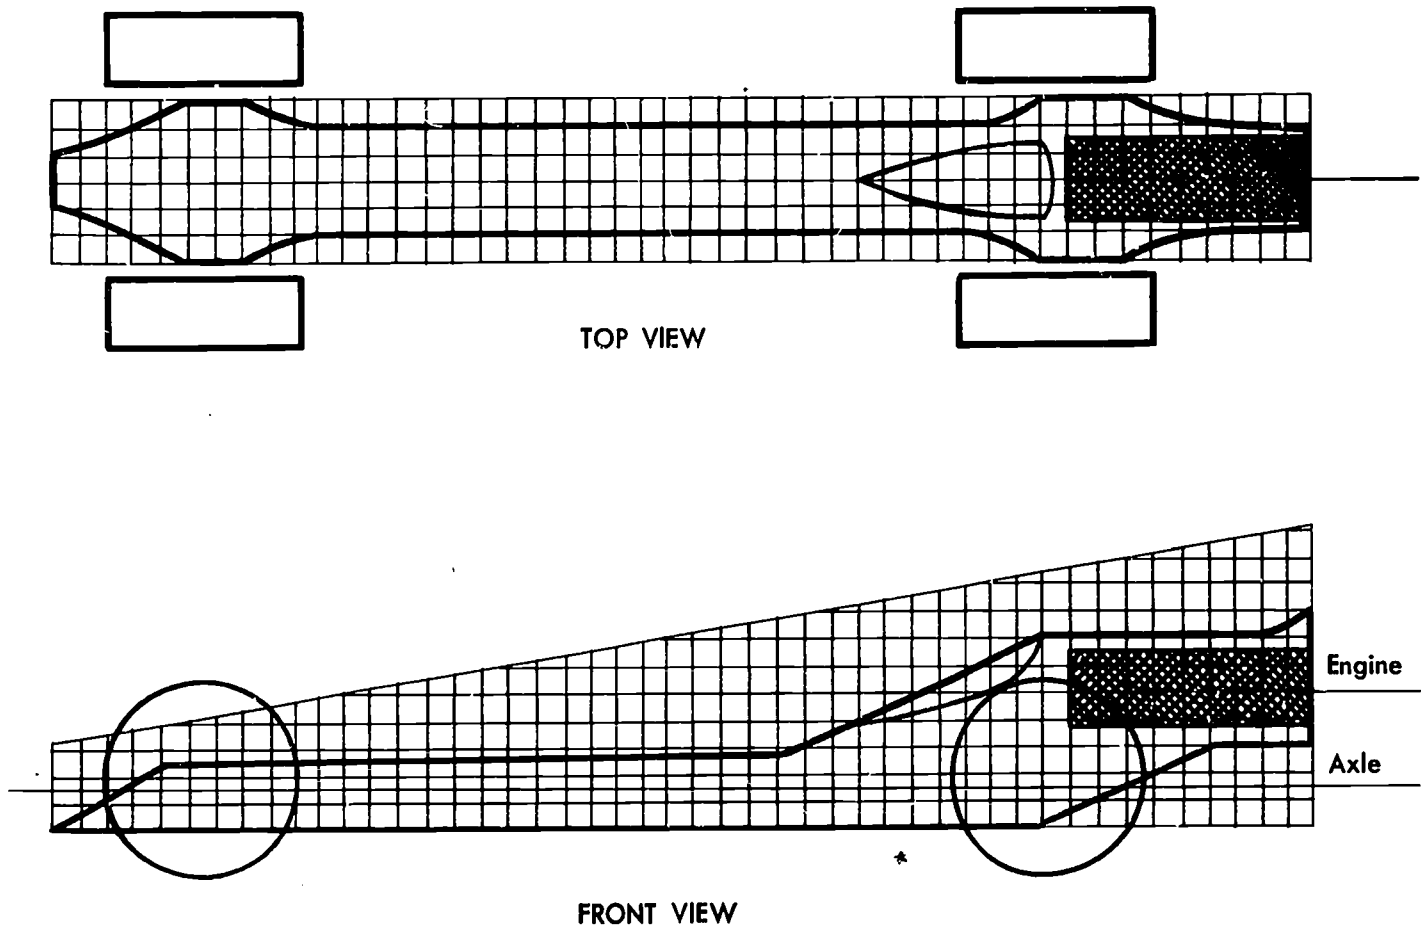

Fig. 7B-1. Views of Land Speed Record Assault Vehicle
3. Draw a *top view* exactly above the front view. See Fig. 7B-1.